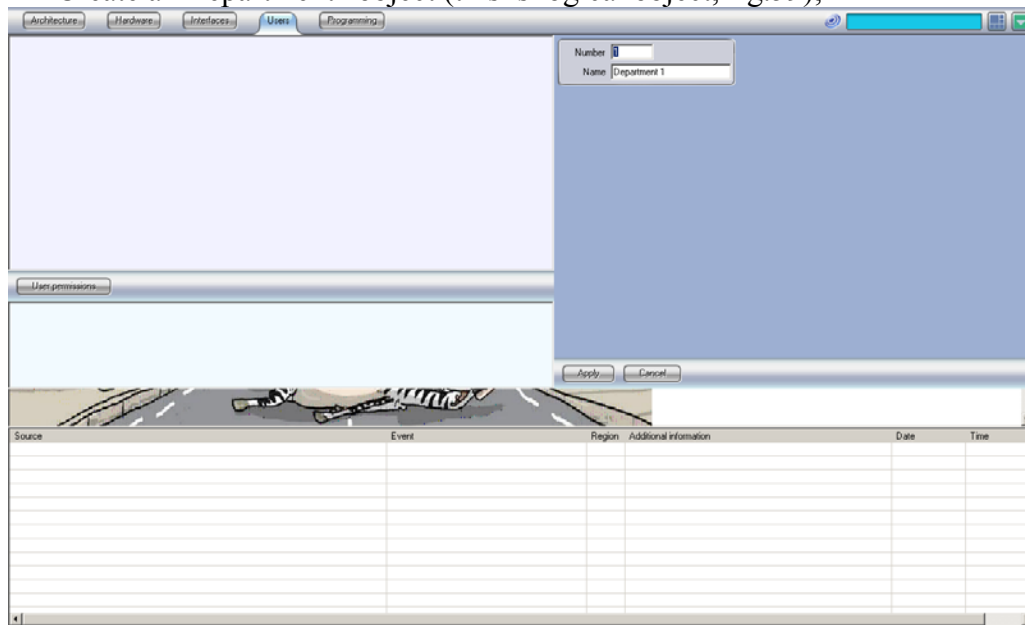

fig. 59
- Create a “Department” object (this is logical object, fig.59);